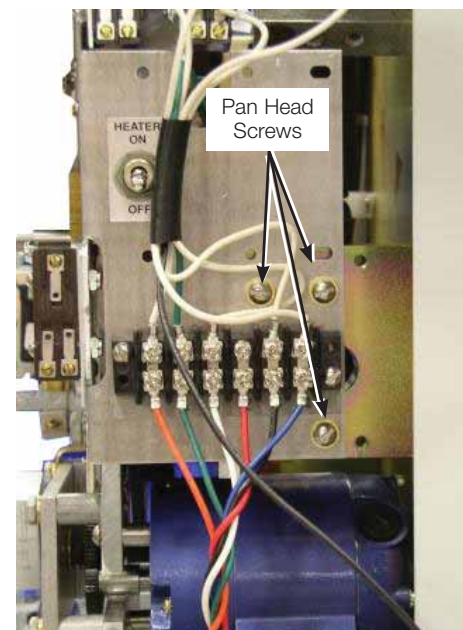

Figure 40.
- p. Reinstall the three pan head screws to secure the microswitch plate. Refer to Figure 40.